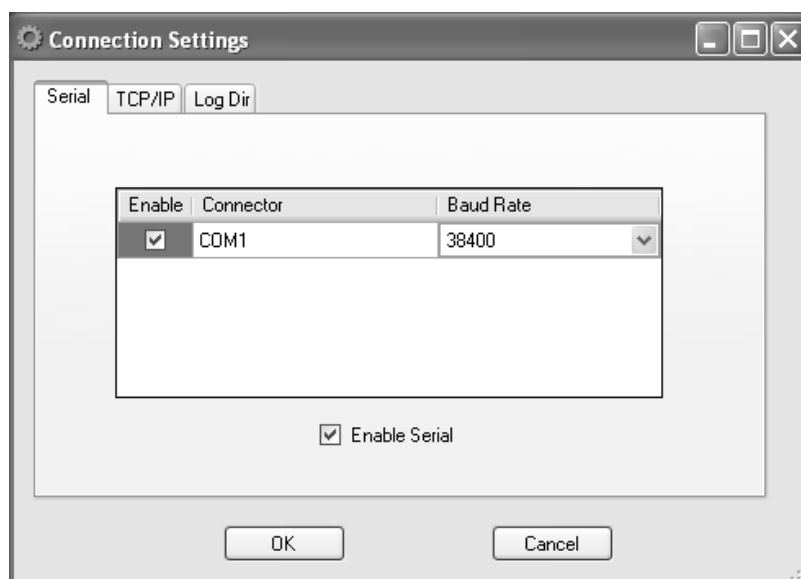

Fig. 2-4. Screenshot of ‘Serial’ selection in the ‘Connection Settings’ dialog box.
4. Click the ‘Main’ menu of the UGA software, and select ‘Connection Settings’. The following screen will appear as shown in Fig. 2-4.